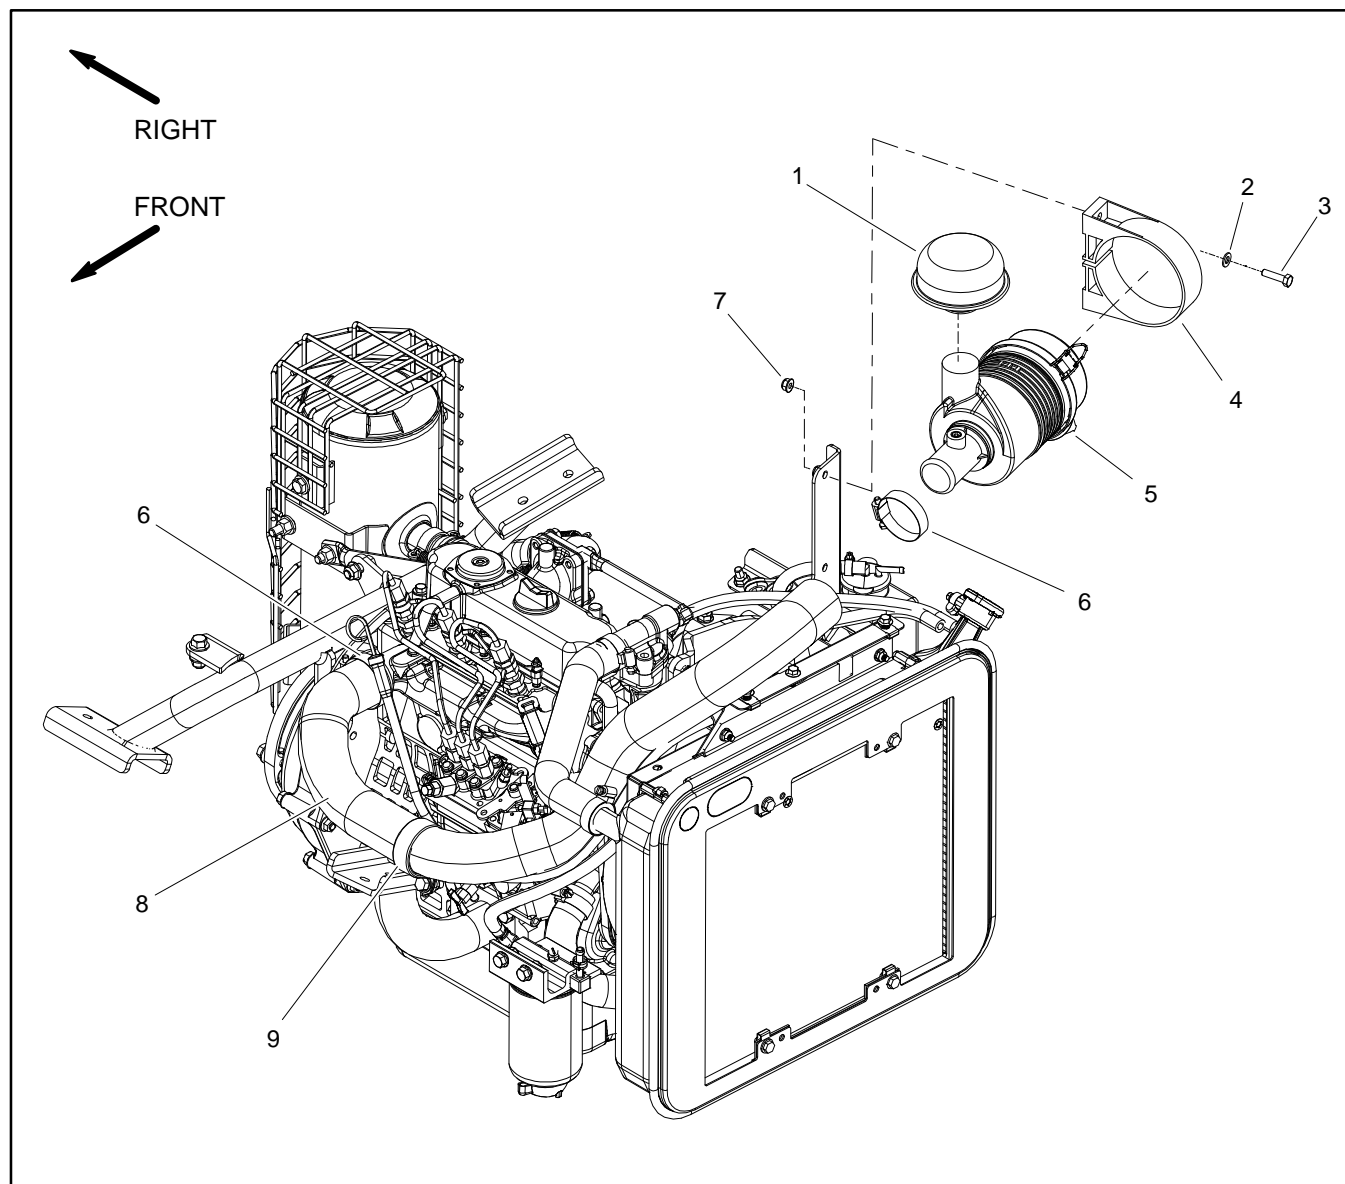
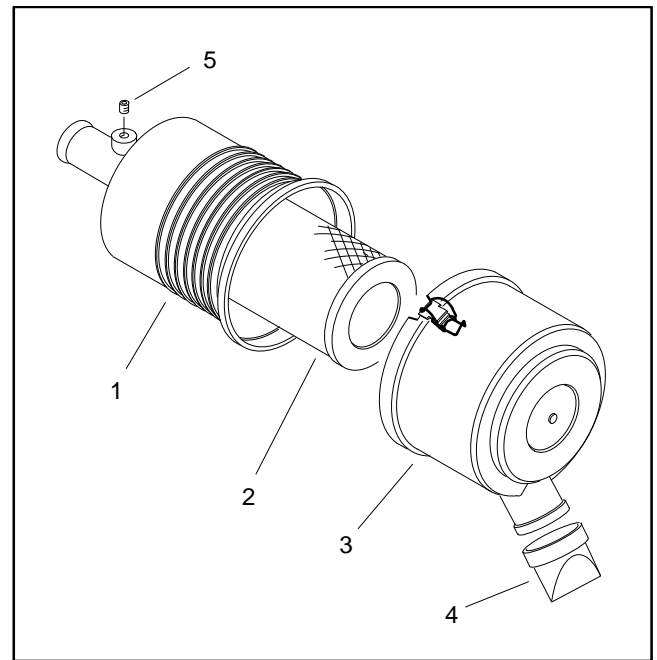

Figure 3
Figure 4
### Air Cleaner Removal (Fig. 3)
2. Remove air cleaner components as needed using Figure 3 as a guide.
3. Check air intake hose (item 8) for damage or wear. Replace hose if damage is found.
4. Disassemble air cleaner as necessary (Fig. 4).
### Air Cleaner Installation (Fig. 3)
1. Assemble air cleaner system using Figures 3 and 4 as guides.
- C. Make sure that air intake hose (item 8) has clearance around it at all points after air cleaner installation is completed.